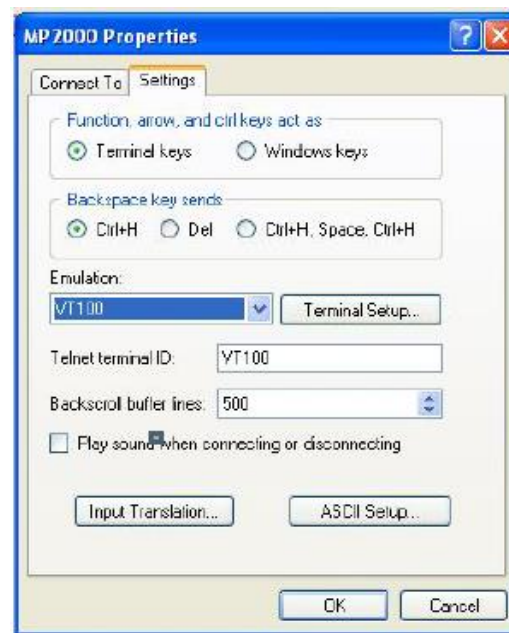

Figure 35
Step 8: The *[Name of Unit]* Properties screen appears (Figure 35)
Step 11: Click OK. The *[Name of Unit]* properties window (Figure 35) reappears.